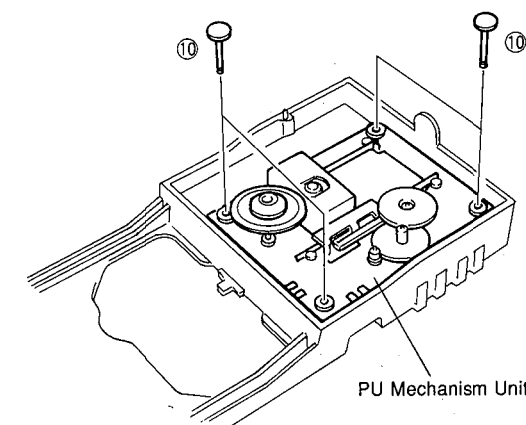

Fig. 4
- Pull out 4 Pins (⑩) and then remove the PU Mechanism Unit in Fig. 4.